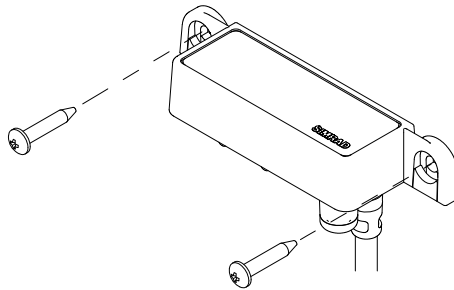

Figure 2-3 SG05 mounting
- The SG05 is bulkhead mounted by the enclosed screws. The SimNet connectors must be pointing downwards. Figure 2-3.